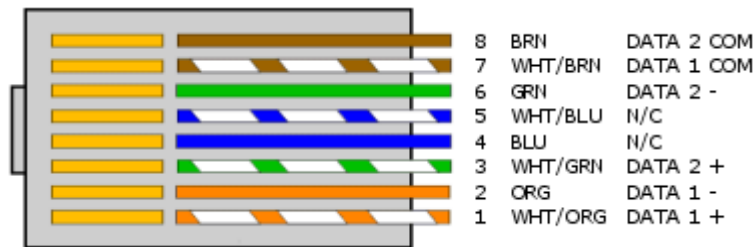

Figure 4.1 RJ45 pinout
- ☐ Once run and properly secured, terminate the cables with the appropriate RJ-45 connector assembly. See **Figure 4.1** for RJ-45 pinout.